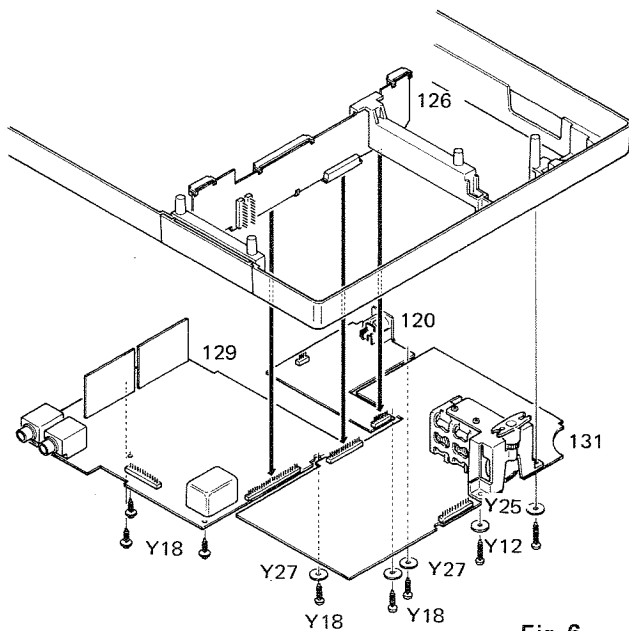

Fig. 6
- Remove the two pairs of screws (Y18) and washers (Y27) and unplug the equalizer PCB (120) from the socket of the connector PCB (126). (cf. Fig. 6)
- Remove the three screws (Y18) and a pair of screw (Y18) and washer (Y27). Then, unplug the amplifier PCB (129) from the socket of the connector PCB (126). (cf. Fig. 6)
- Remove the three pairs of screws (Y18) and washers (Y27), and two pairs of screws (Y12) and washers (Y25). Then, detach the tuner PCB (131) by unplugging it from the socket on the connector PCB (126). (cf. Fig. 6)